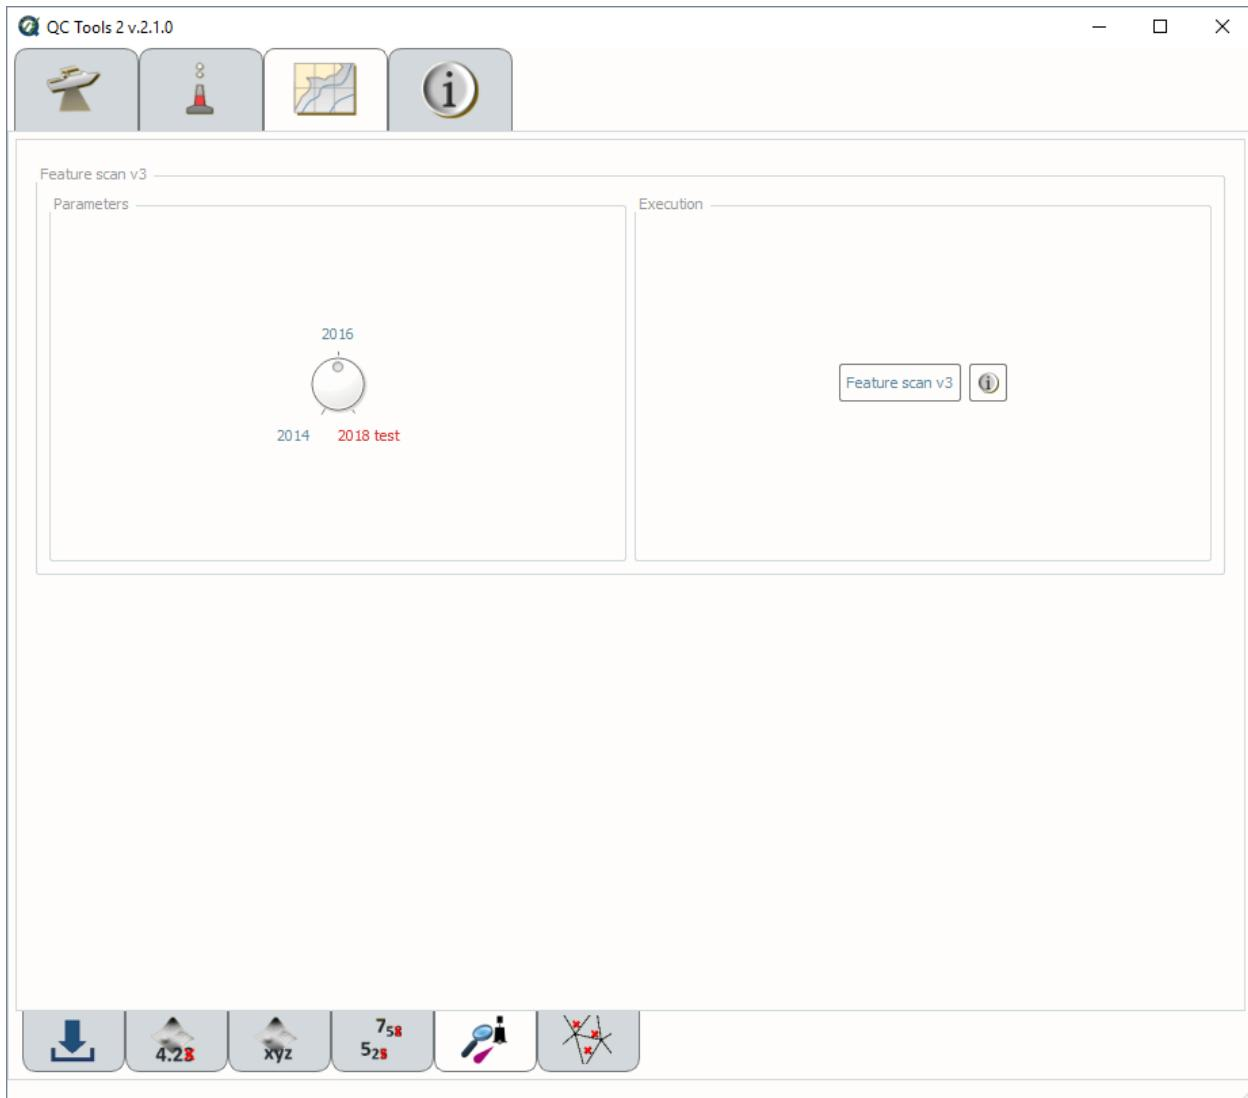

Fig. 2.76: Feature scan’s interface.
- In **Parameters** (Fig. 2.76, left side), turn the knob to select the required year of HCell Specification. Currently, the ‘2018 test’ is duplicative to 2016.
- In **Execution** (Fig. 2.76, right side), click **Feature scan v2**.